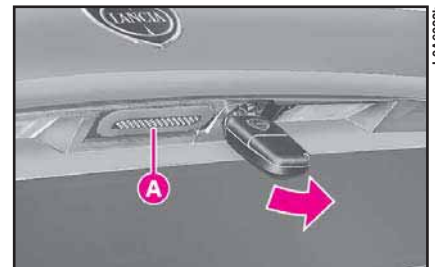

fig. 81
4) Fully turn anti-clockwise the key into the outside bonnet lock to pull out the locking hook (**fig. 81**).
turn the key anticlockwise in the lock, and at the same time slightly press the lower edge of the number plate holder to reduce operation effort (**fig. 81**).
8) Depress push button **A** (**fig. 81**) to restore normal lock operation.
1) To open the boot from the outside, fully turn the key anticlockwise in the lock (**fig. 81**), and at the same time slightly press the lower edge of the number plate holder to reduce operation effort.
5) Depress push button A (**fig. 81**) to restore normal lock operation.